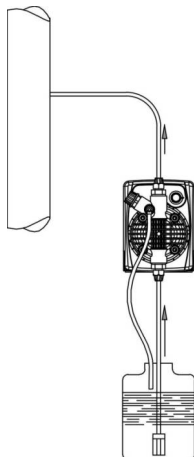
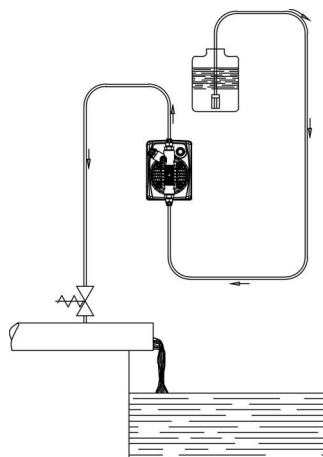

Fig. 5
Fig. 6
- c.- Install the pump in any way as shown in Fig. 5. If installed above the chemical tank, it is important that the pump height should not exceed the rated suction height, over the level of the chemical. When the process plant in which the pump is installed is operating at atmospheric pressure (no back pressure) and the chemical tank is situated above the plant (Fig. 6), the condition of the injection valve should be checked at regular intervals, because excessive wear and tear could cause additive to drip into the plant even when the pump is shut down. If the problem persists, install a properly calibrate counter-pressure valve (C) between injection point and the valve. In the case of liquids that generate aggressive vapours, do not install the pump above the storage tank unless the latter is hermetically sealed.